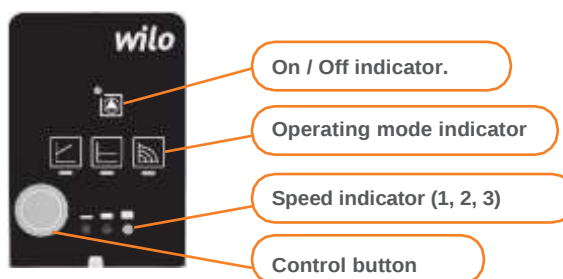

Figure 7 - Wilo PARA pump control panel.
5.2.14 The boiler is equipped with a Wilo PARA 15-130 / 6-43 / SC circulation pump with three operating modes. Factory settings of the operating mode of the circulating pump - "Constant speed-III". When the pump is switched on, the indicator of pump operation, operating mode and indicator III - speed are lit (see Figure 7).
5.2.18 Switching between pump modes and speeds is performed using the control button (see Figure 7).